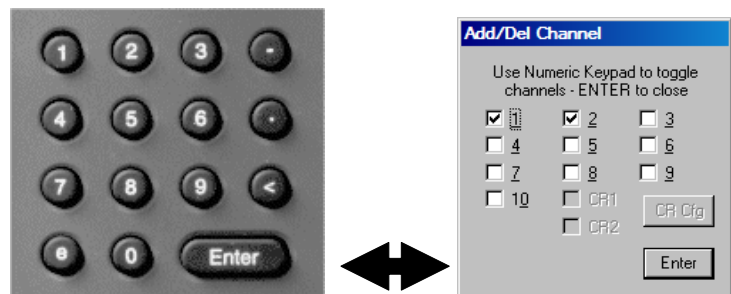

Figure 5 - Channel Selection
- To add or change channels, press **Add/Del Channel** and select the channel (Figure 5).
- To change the trigger channel, press **Trigger** to open the trigger setup menu, then press **Trigger** to open a dialog box similar to Figure 5.